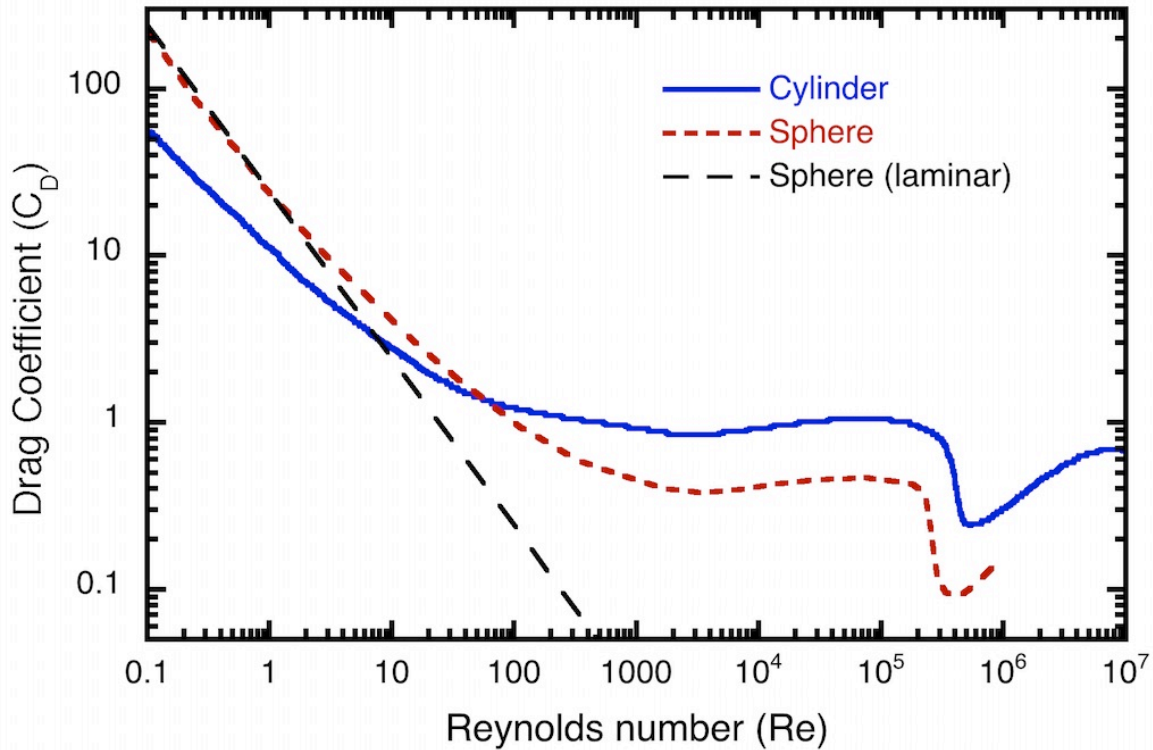

Figure 20. Drag coefficients as a function of Reynolds number for spheres and cylinders.
The above terminal velocity is **only valid for laminar flow**. For turbulent flow, there is no simple analytical relationship between Re_d and C_D , so one must resort to experiments or detailed (and difficult) computer simulations of the Navier-Stokes equations. Figure 20 shows a comparison of the actual C_D vs. Re_d with that predicted by the low- Re_d laminar-flow model. It can be seen that the relation for laminar flow is reasonable up to about $Re_d \approx 3$ but at higher Re_d , the flow is NOT laminar and thus the laminar flow result $C_D = 24/Re_d$ does not apply. As one would expect, C_D is higher with turbulent flow. Note also that at $Re_d \approx 3 \times 10^5$ there is a sudden decrease in C_D .
Please note: both axes in Figure 20 are plotted on a logarithmic scale in order to span many decades of Re_d and C_D . The “distance” between numbers A and B on a logarithmic scale is calculated based on $\log_{10}(A) - \log_{10}(B) = \log_{10}(A/B)$, whereas the “distance” between A and B on a linear scale is calculated based simply on $A - B$. So the tick marks between (for example) 1 and 10 are 2, 3, ...9 but they are not evenly spaced because the “distance” (in logarithmic space) between 1 and 2 is $2/1 = 2$ and the “logarithmic distance” is $\log_{10}(2/1) = \log_{10}(2) = 0.301$ (or 30.1% of the distance between 1 and 10) whereas the “logarithmic distance” between 8 and 9 is much less, i.e., $\log_{10}(9/8) = \log_{10}(1.125) = 0.051$ (or 5.1% of the distance between 1 and 10). Another point to note is that a straight line on a plot with logarithmic scales on both axes does not represent a linear relation such as $y = mx + b$, but rather it indicates a power-law relation, i.e. $y = mx^b$. For laminar flow around spheres, the relationship is $C_D = 24/Re_d$, that is $m = 24$ and $b = -1$, thus the slope of the plot for this special case is -1.
A similar C_D vs. Re_d plot for cylinders in cross-flow (i.e. with the flow in the direction perpendicular to the axis of the cylinder) is also shown in Figure 20, but for cylinders there is no simple analytical relationship analogous to the $C_D = 24/Re_d$ result for laminar flow over spheres. Note again the sudden decrease in C_D at almost the same Re_d as for spheres. Note that a 3 cm golf ball hit at 70 m/s in air has a Reynolds number of $(70 \text{ m/s})(0.03 \text{ m})/(1.5 \times 10^{-5} \text{ m}^2/\text{s}) = 1.4 \times 10^5$. Dimpling the golf ball decreases the transition Re_d somewhat, and thus enables a lower C_D (actually the dimpling also increases the lift due to the backspin on the ball, but that's beyond our scope.)
- 3) Look up her drag coefficient in Figure 20.
- 3) From Figure 20, $C_D \approx 0.4$